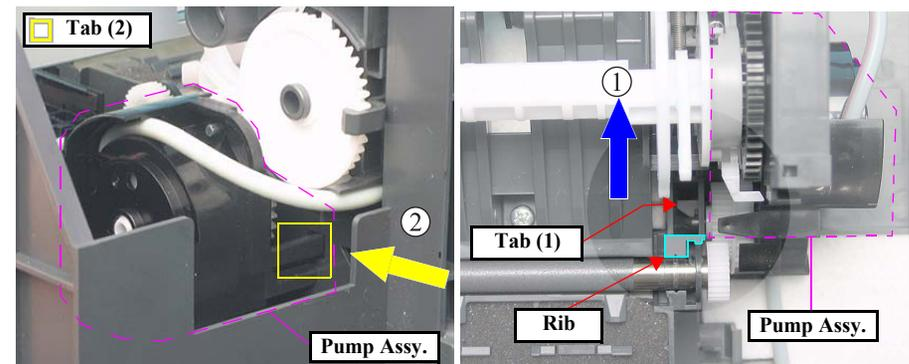

Figure 4-38. Removing Ink System (2)
3. Attach the Ink Tube. (Figure 4-38)